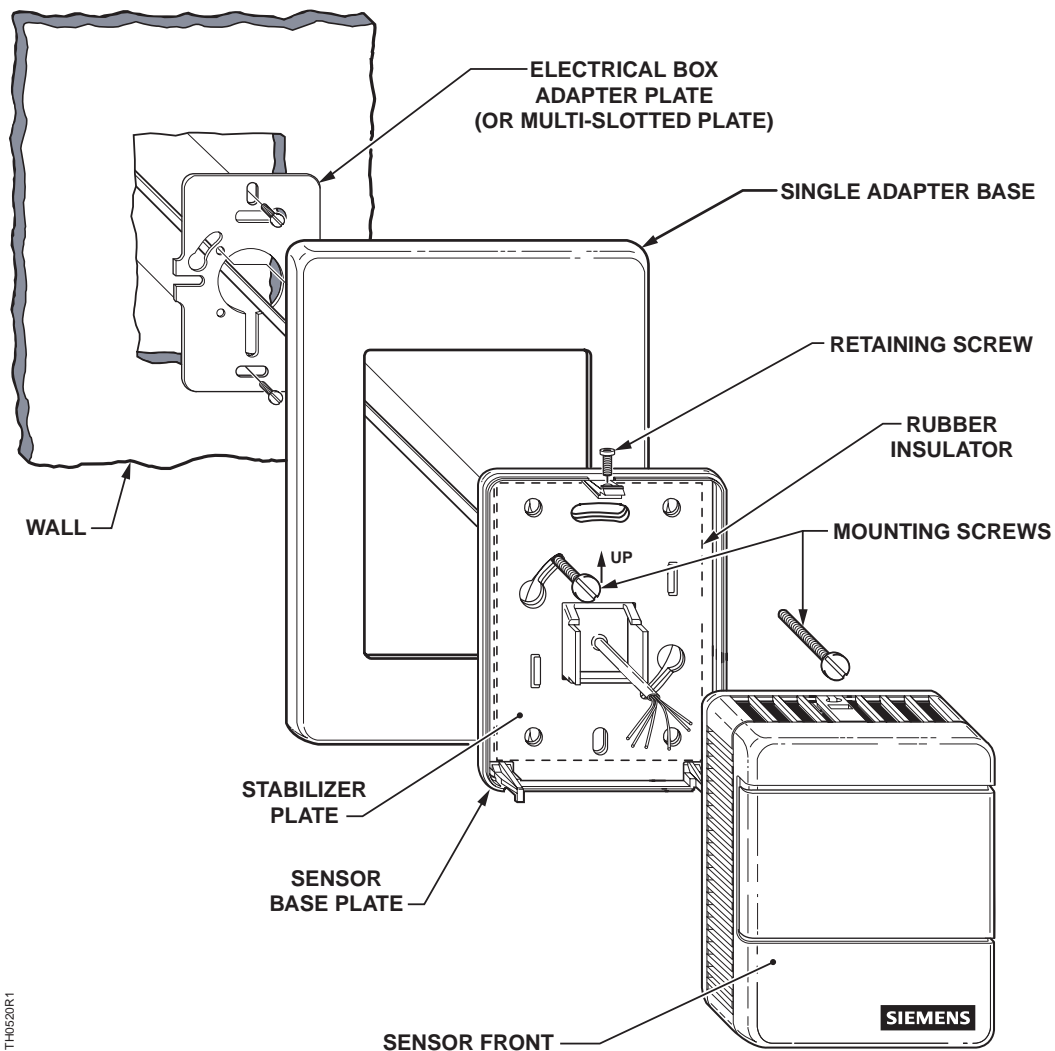

Figure 4. Electrical Box and Rough-in Mounting.
3. If you have a single-sensor electrical box, install the electrical box adapter plate. See Figure 4.
If you use a universal adapter kit for a retrofit job, install the multi-slotted plate in place of the electrical box adapter plate. See Figure 4.
4. Pull the cable through the required mounting hardware in the order shown in Figure 4.